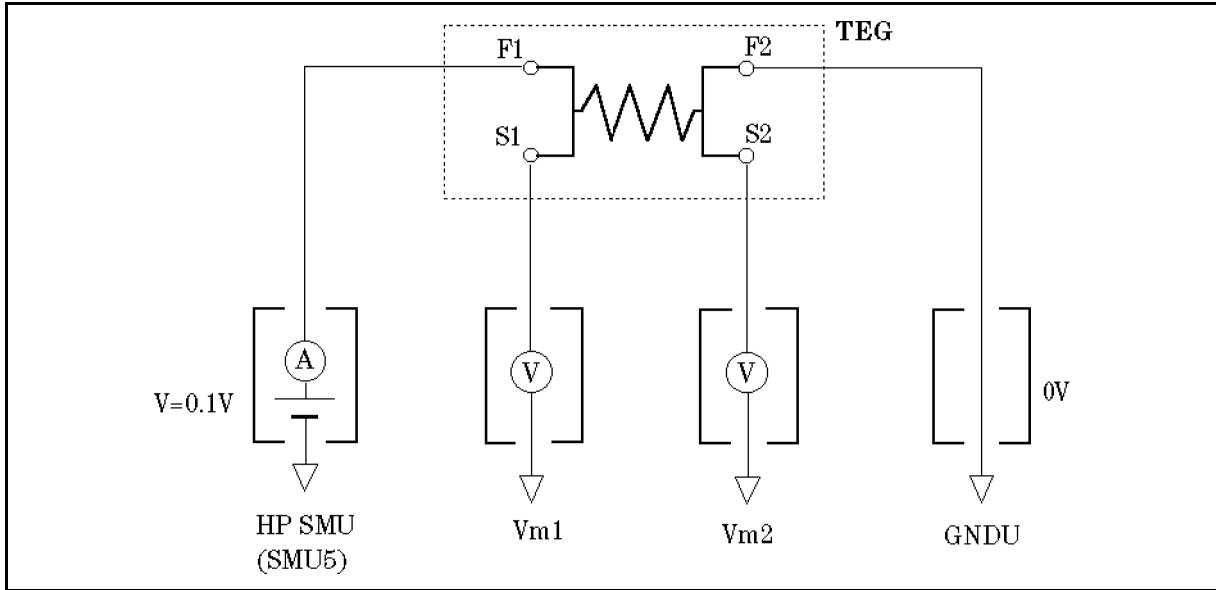

Figure 3-1. Rinit Measurement Circuit
First, Rinit is measured while 0.1 V is applied to the test structure. Applied voltage value (0.1 V) is assumed to be low enough not to cause Joule heating. Rinit measurement circuit is shown in Figure 3-1.
1. Connect HP 4155A/4156A to your test device. Refer to Figure 3-1.